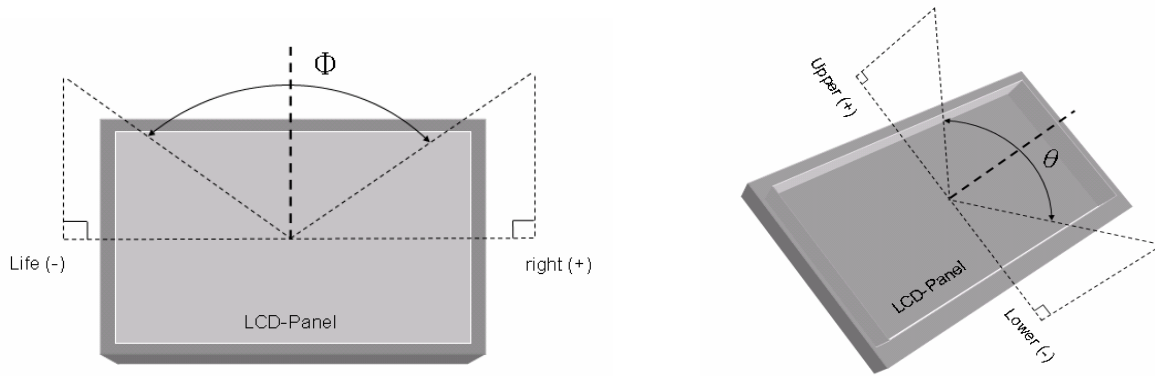

Fig9-2 Definition of Viewing Angle
*4) Definition of Viewing Angle(θ, ψ),refer to Fig9-2 as below : (in the dark room.EZ-CONTRAST (ELDIM))